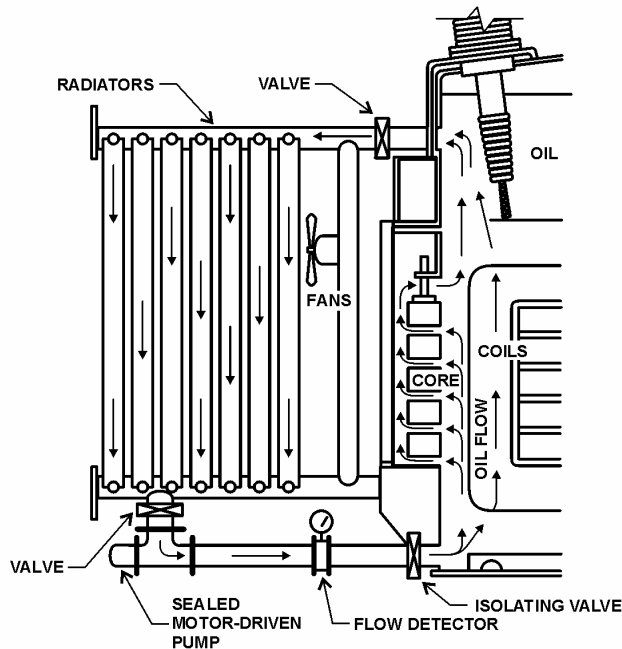

Figure 26 – Typical Oil Flow.
1. **Class OA/FA/FOA:** Liquid-immersed, self-cooled/forced air-cooled/forced liquid, and forced air-cooled. Windings and core are immersed in some type of oil. This transformer typically has radiators attached to the enclosure. The transformer has self-cooling (OA) natural ventilation, forced air-cooling FA (fans), and forced oil-cooling (pumps) with additional forced air-cooling (FOA) (more fans). The transformer has three load ratings corresponding to each cooling step. Fans and pumps may be wired to start automatically at pre-set levels as temperature increases (figure 26).